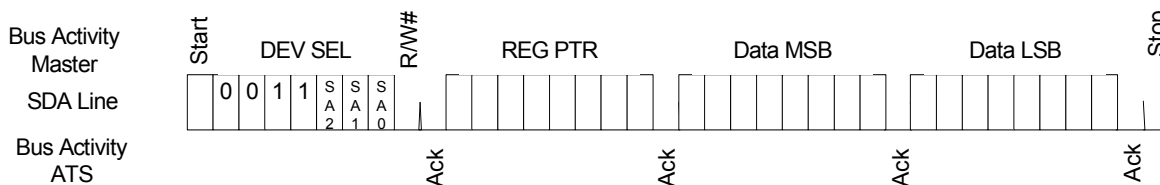

Figure 10 — TS Register Write Operation
Writing to the TSE2002av Temperature Register Set is accomplished through a modified block write operation for two (2) data bytes. To maintain I2C compatibility, the 16 bit register is accessed through a pointer register, requiring the write sequence to include an address pointer in addition to the Slave address. This indicates the storage location for the next two bytes received. Figure 10 shows an entire write transaction on the bus.
The register set address are shown in Table 4. These values are used in the I²C operations as the “REG_PTR” in Figures 10 through 13.